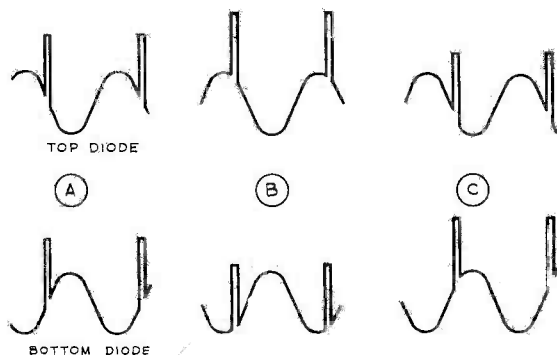

Figure 8—Sync Discriminator Waveforms
The sine wave oscillator voltages applied to the plates of V123 are equal in amplitude and opposite in phase. The synchronizing pulses from the second sync amplifier are fed through a differentiating network to attenuate the vertical sync and then applied to the center tap of T108. The horizontal sync pulses thus appear in phase and of equal amplitude on the diode plates as shown in Figure 8. When the pulse and sine wave are properly phased as in (A), both diodes will produce equal voltage across their load resistances, R191 and R192. However, these voltages are of opposing polarity and therefore the sum of the voltages across these two load resistors will be zero. If the phase of the pulse changes with respect to the sine wave as in (B), the top diode will produce more voltage across R191 than the bottom diode produces across R192. Thus, the voltage across the two will be positive. In (C) the reverse condition exists. It is obvious that the output of the discriminator can swing from positive through zero to negative dependent upon the phase relation of the synchronizing signal and the oscillator. This d-c output is applied to the grid of V124.